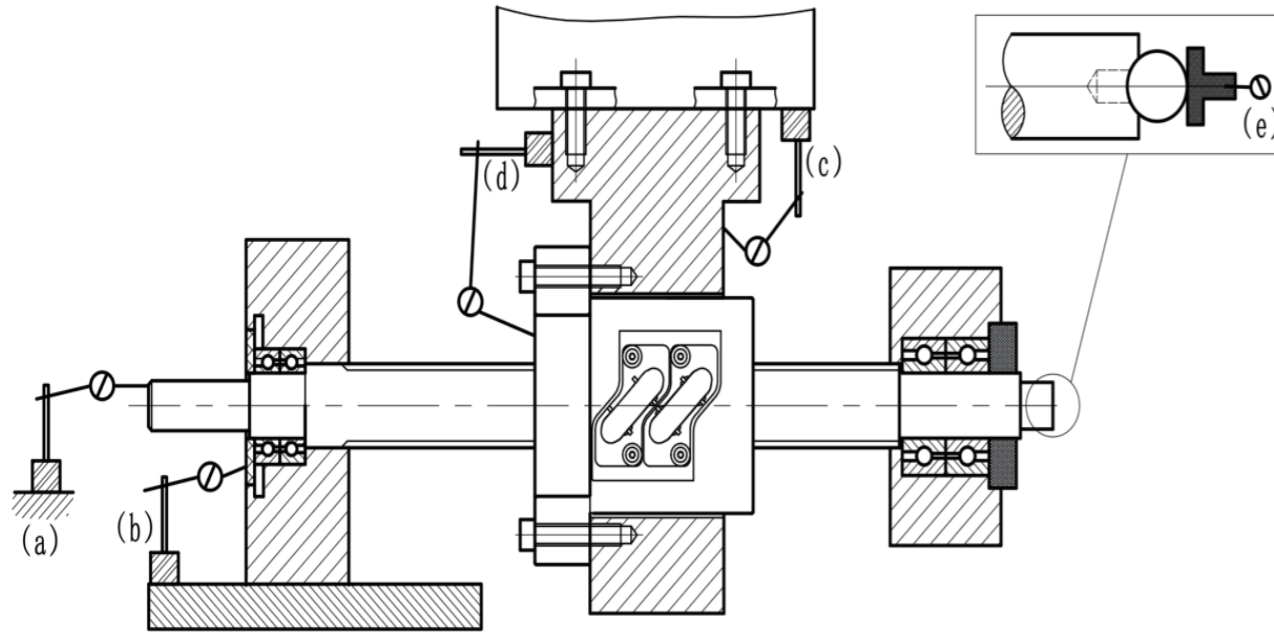

Figure 3.4.1
- Establish the structure shown in Figure 3.4.1 (e) If the nut, nut seat, and bearing have been correctly installed and fixed, the variation here will not exceed 0.003mm (3 microns).
- The structure shown in Figure 3.4.1 a. should also be established at the end of the screw motor (a). When there is no change in the screw rotation gauge, if there is a value, it indicates that the bearing is not completely fixed or the bearing is not paired with a 60 degree angular contact bearing.